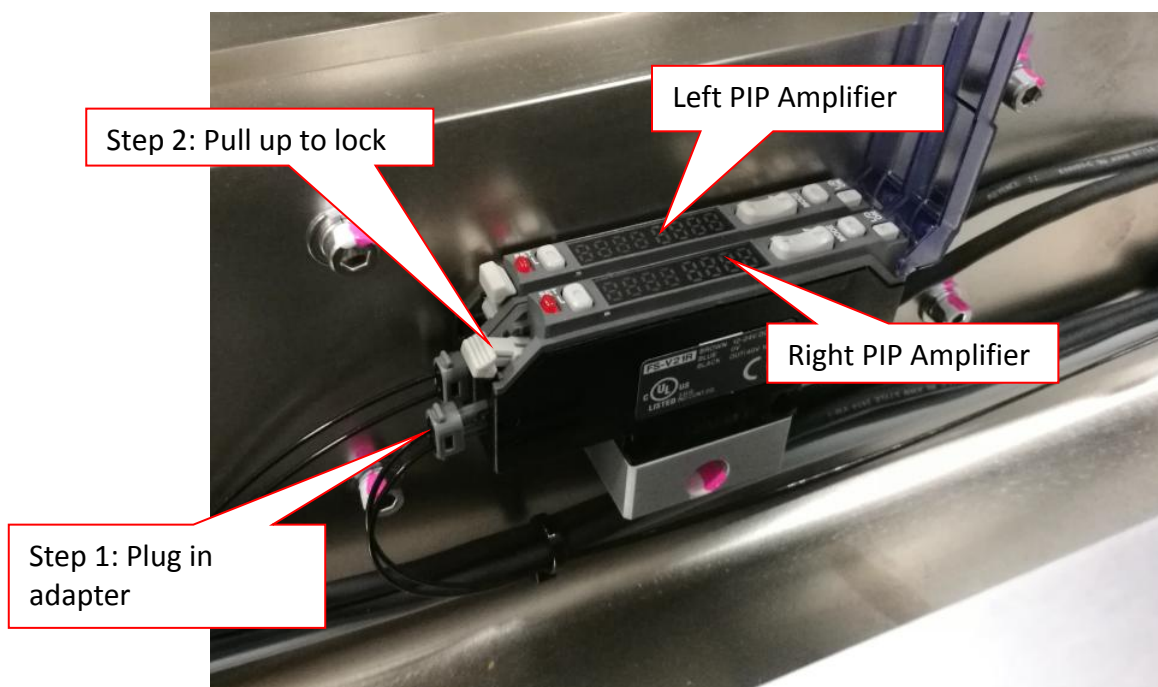

Figure 41 PIP Sensor Amplifier
11. Plug adapter to Right Amplifier & lock as shown in Figure 41